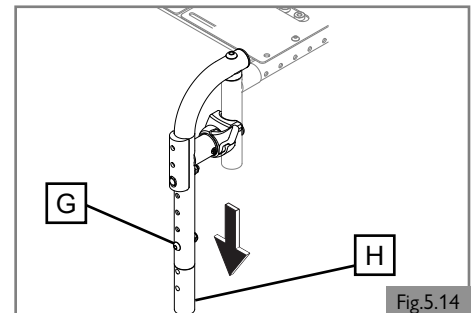

Fig.5.14
5.9 Swing in/out footrest adjustment (Fig 5.14)